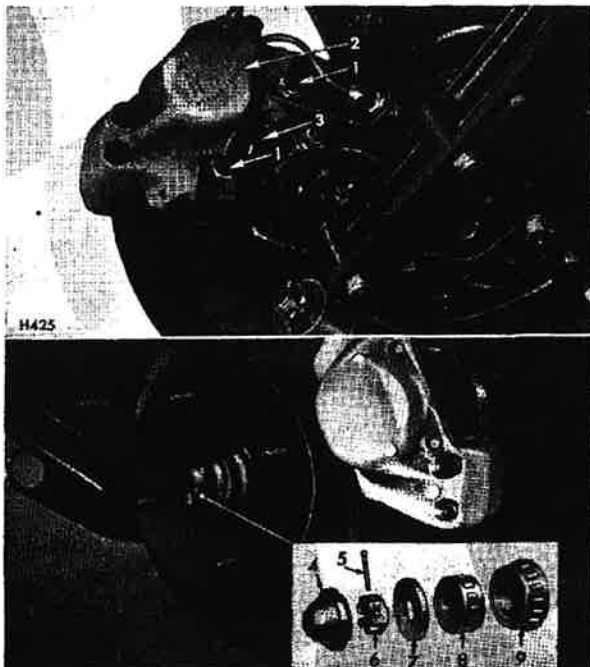

Fig. 79 (upper) Fig. 80 (lower)
**Front Hub Adjustment and Lubrication (Figs. 79 and 80)**